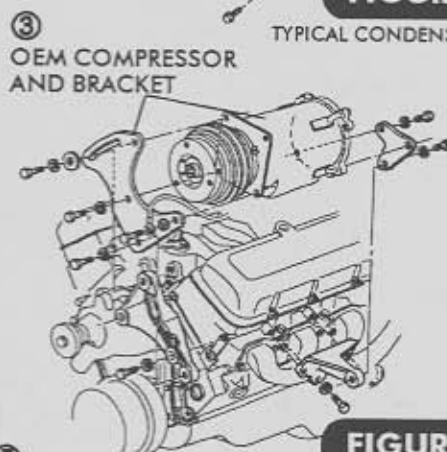

FIGURE 2
- 3. OEM COMPRESSOR AND BRACKET (DISCARD). SEE FIGURE 2.